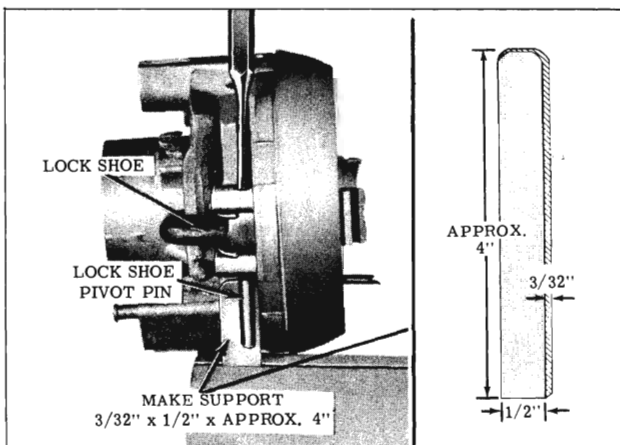

Fig. 4-91 Removing Lock Shoe Pivot Pins
- Back up the lock shoe pivot pin boss in the actuator housing, with a suitable tool, in-board of the pivot pins. (Fig. 4-91)